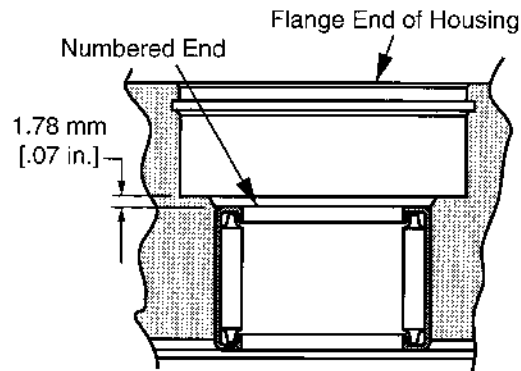

Figure 1-4
- Check the bearing (press fit) in front of housing. If needles remain in cage, move freely, and setting at the dimension shown in figure 1-4, removal not required.
- 2** If necessary, press new bearing in housing to dimension shown in figure 1-4 with the numbered end of bearing outward.